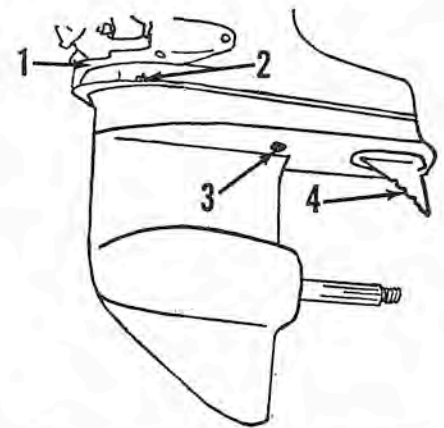

Fig. M99—View of typical lower unit showing location of attaching screws securing gearcase housing. Refer to text for details.
Most service on the lower unit can be performed by detaching the gearcase housing from the driveshaft housing. When removing the housing check carefully at the locations shown in Fig. M99, to make sure that all securing cap screws or stud nuts are removed. On some early motors the gearcase housing was secured by two studs. On some later units, securing studs will be found at all of the indicated locations. NOTE: On motors equipped with trim tab on water intake as shown at (4), remove the intake by removing plug and screw on top side of anti-cavitation plate; then check for cap screw under water intake. On models not equipped with propeller hub exhaust, the cap screw on trailing edge will be found in exhaust outlet.